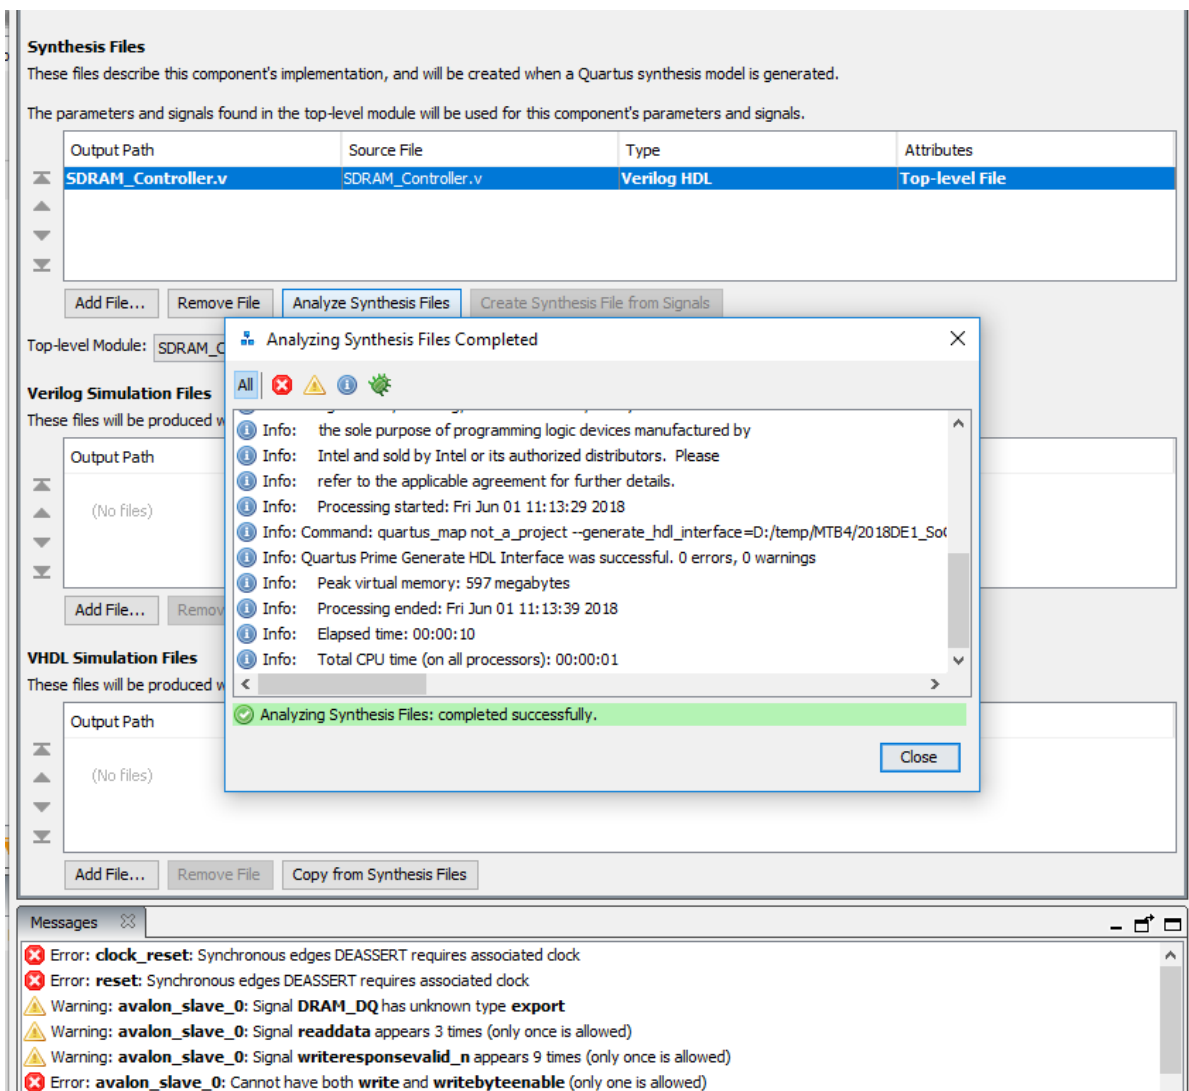

Figure 5: Specifying Files
- In the Files tab, you will need to specify the file that describes your component (Figure 5). Click on the “Add File...” button under the section “Synthesis Files” to browse and select the module `SDRAM_Controller.v`. Then click “Open” and click on the “Analyze Synthesis Files” button. Any errors found by “Analyzing Synthesis Files” need to be fixed and the code re-analysed. Once no errors are present (should see message “Analyzing Synthesis Files: Completed successfully” or “Analyzing Synthesis Files: Completed with warnings”), the next step is to specify the types of interfaces that are used by the component.